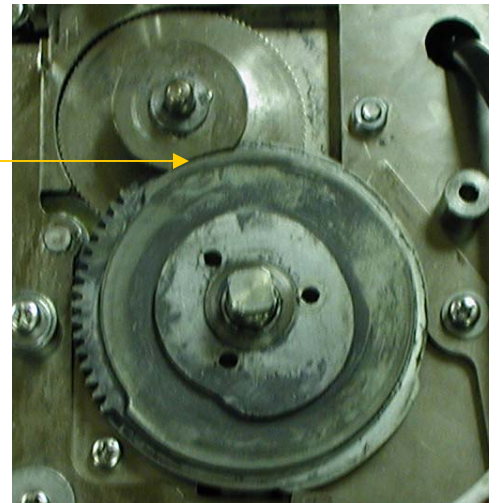

Figure 6—Machine Shown in Position to remove Feed Roller and Segment Gear
- 5) Turn the Main Shaft counter-clockwise until the flat of the Feed Roller rides on the flat of the Segment Gear. This will ensure proper timing during the re-assembly process. See Figure 6.